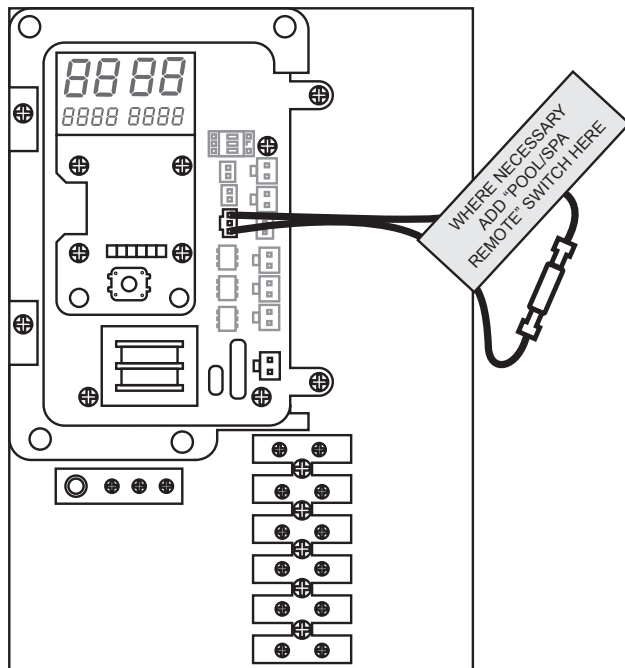

Figure 5. Supplied Wires for the Remote Interface Harness
5. On the "Remote Interface Harness", the supplied two wires provide power out to either a toggle switch or the switch contacts of a third party remote. See Figure 5.